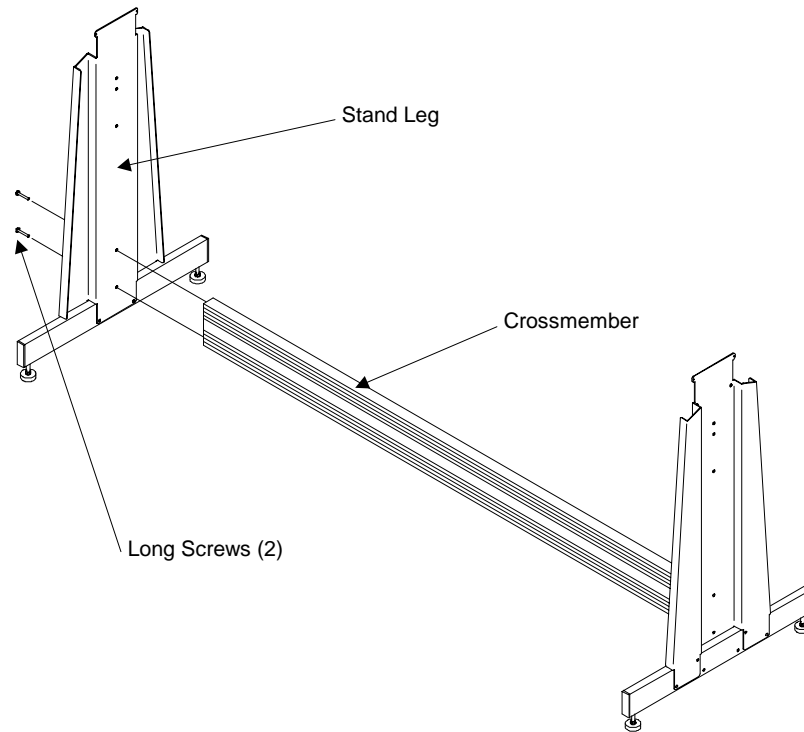

Figure 4. Attaching the Bottom Crossmember to the other Stand Leg
4. Repeat procedure #3 to attach the other end of the crossmember to the other stand leg. Refer to Figure 4.